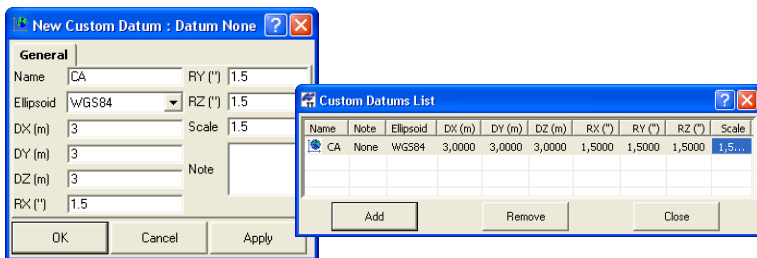

Figure 2-22. New Custom Datum
3. On the *New Custom Datum* dialog box, enter the following information and click **OK** (Figure 2-22 on page 2-16):